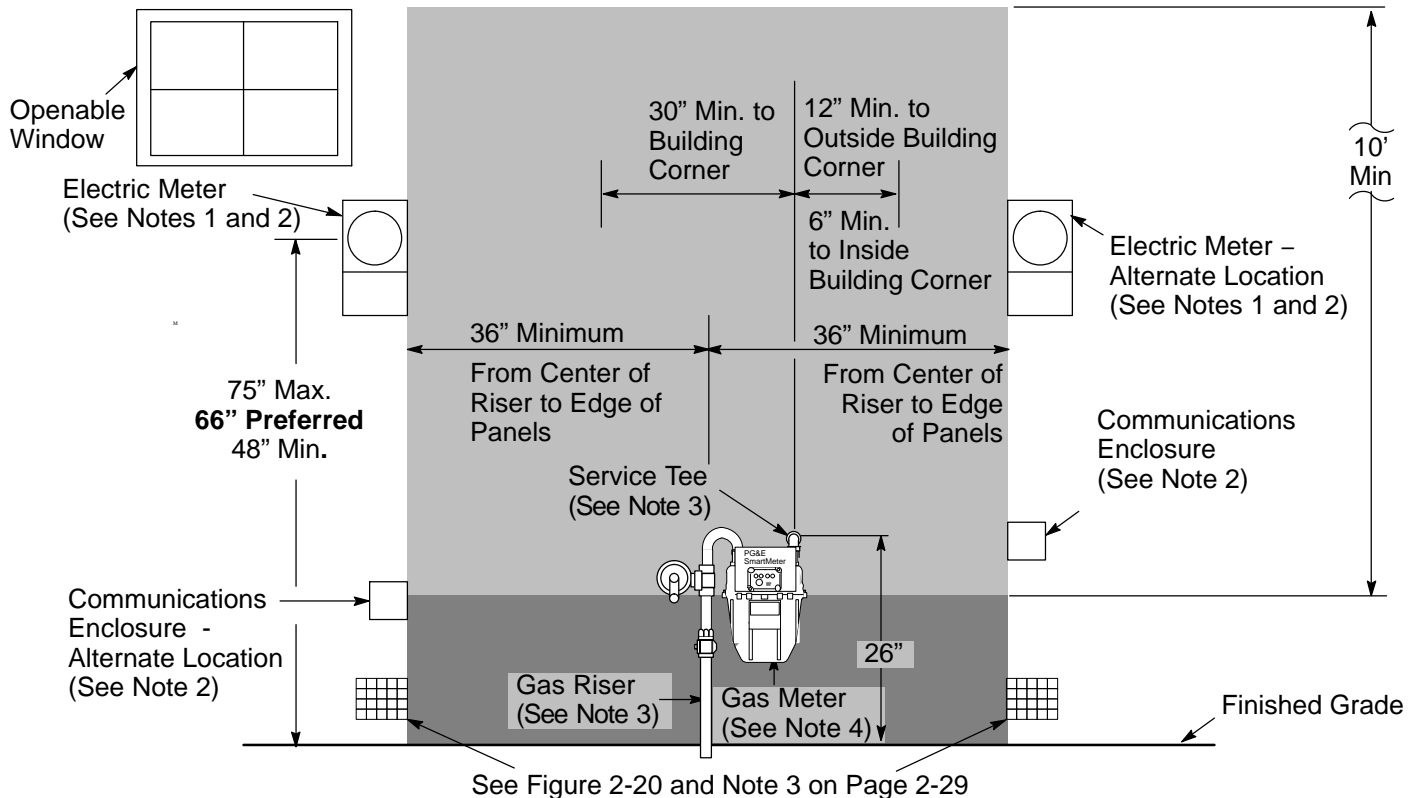

Figure 2-19
Figure 2-19, “Electric and Gas Meter Set Separation Dimensions and Clearances,” found below, Figure 2-20, “Gas Meter Set Clearance From Building Openings,” on Page 2-29, and Figure 2-21, “Gas Regulator Set Clearance Requirement From Sources of Ignition,” on Page 2-30, all represent various metering facilities’ clearance requirements. If applicants install enclosures on their premises, the enclosures must meet the specifications provided in these illustrations.
Notes in reference to Figure 2-19.
4. The minimum dimensions and clearances in Figure 2-19 are good for gas meters up to the 1,000 class. See Figure 2-14 and Figure 2-15 on Pages 2-23 and 2-24 for clear and level working space in front of the gas meter.